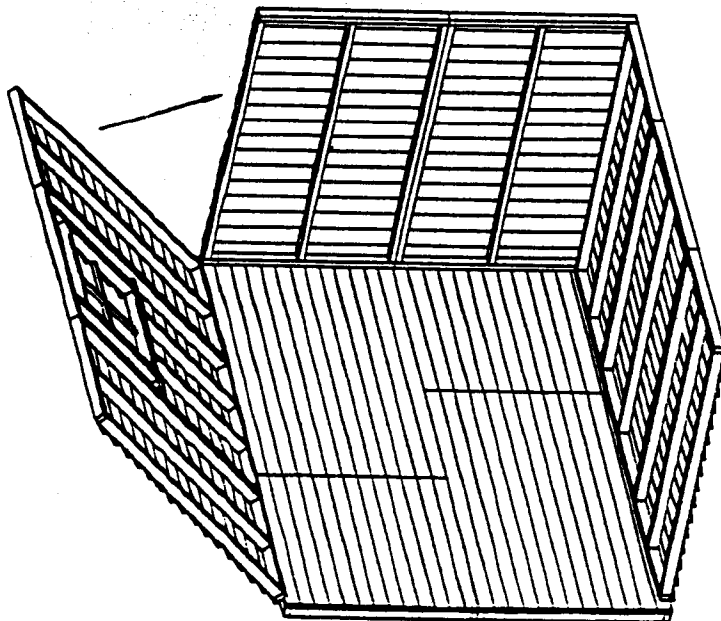

FIGURE C5
5. Complete the wall system by erecting the narrow front wall panels. Notice that the panels extend out flush with the sides of the floor, as shown in Figure C5.